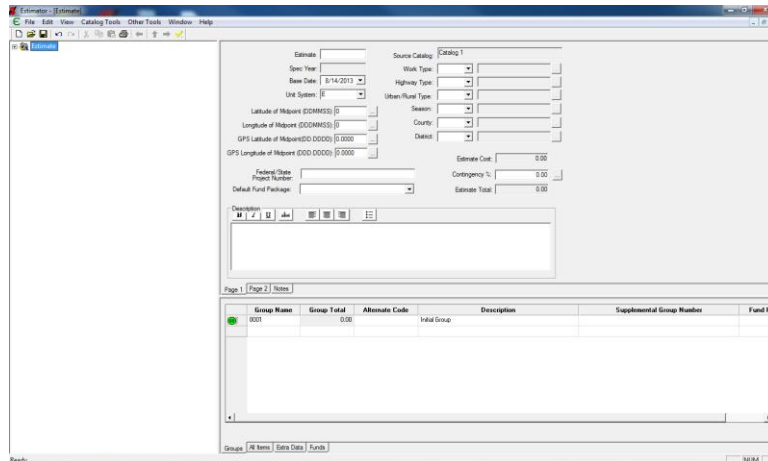

Figure 4-4. New Estimate Header Window
3. Select **<Blank Estimate>** and click OK. Estimator displays the PAGE 1 tab of the Estimate header window (see Figure 4-4).
Some fields in the New Estimate Header window are required; that is, they must have entries or Estimator notifies you of an error. If you do not have an entry in a required field when you verify your estimate (discussed later in this guide), an error appears with information about the missing fields. Also, an exclamation point (!) appears in the tree area where the error occurs. In Figure 4-4, the exclamation point appears because there is no Estimate ID entered for the estimate.